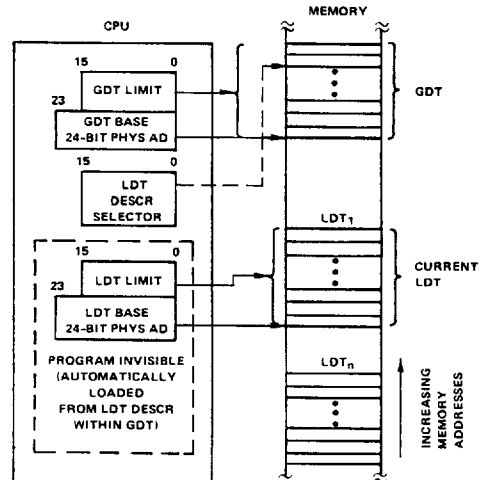

FIGURE 15. LOCAL AND GLOBAL DESCRIPTOR TABLE DEFINITION
Two tables of descriptors, called descriptor tables, contain all descriptors accessible by a task at any given time. A descriptor table is a linear array of up to 8192 descriptors. The upper 13 bits of the selector value are an index into a descriptor table. Each table has a 24-bit base register to locate the descriptor table in physical memory and a 16-bit limit register that confine descriptor access to the defined limits of the table as shown in Figure 15. A restartable exception (13) will occur if an attempt is made to reference a descriptor outside the table limits.